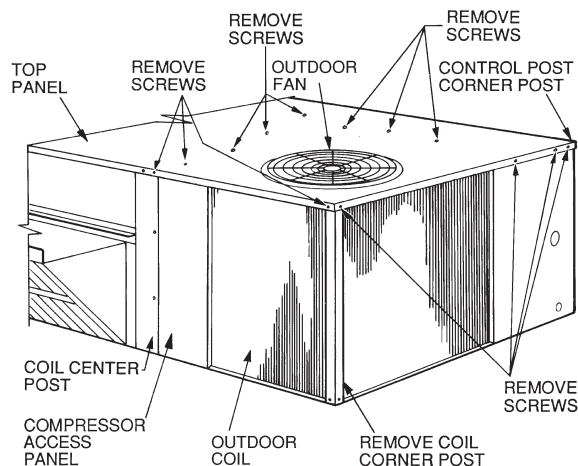
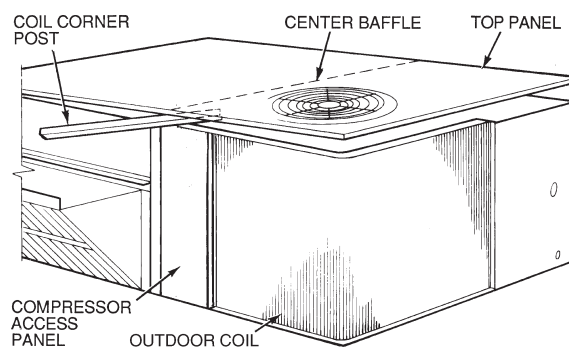

Fig. 14 – Cleaning Condenser Coil
Fig. 15 – Propping Up Top Panel
3. Remove condenser coil corner post. (See Fig. 14.) To hold top panel open, place coil corner post between top panel and center post. (See Fig. 15.)